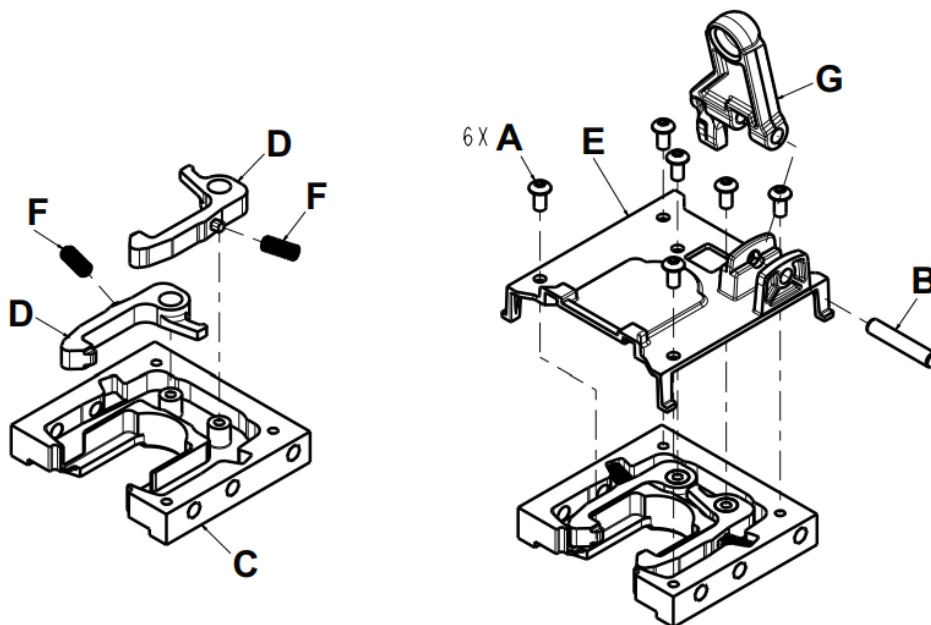

Figure 6 – Replacing the foot end lock pawl
2. Using a 1/8" punch, push the dowel pin (B) out of the release latch arm (G) (Figure 6). Save the dowel pin.
3. Using a T25 Torx driver, remove the six screws (A) that secure the pivot bracket to the foot end interface (C) (Figure 6).
4. Remove and discard the lock pawl (D) (Figure 6).